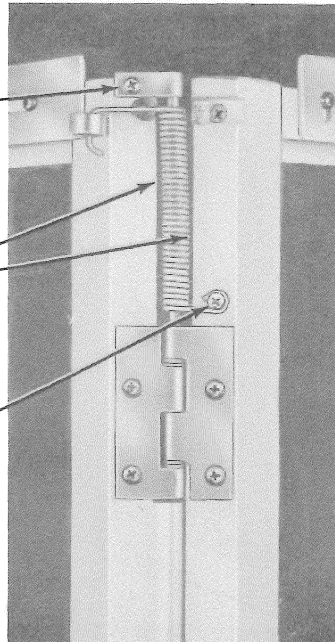
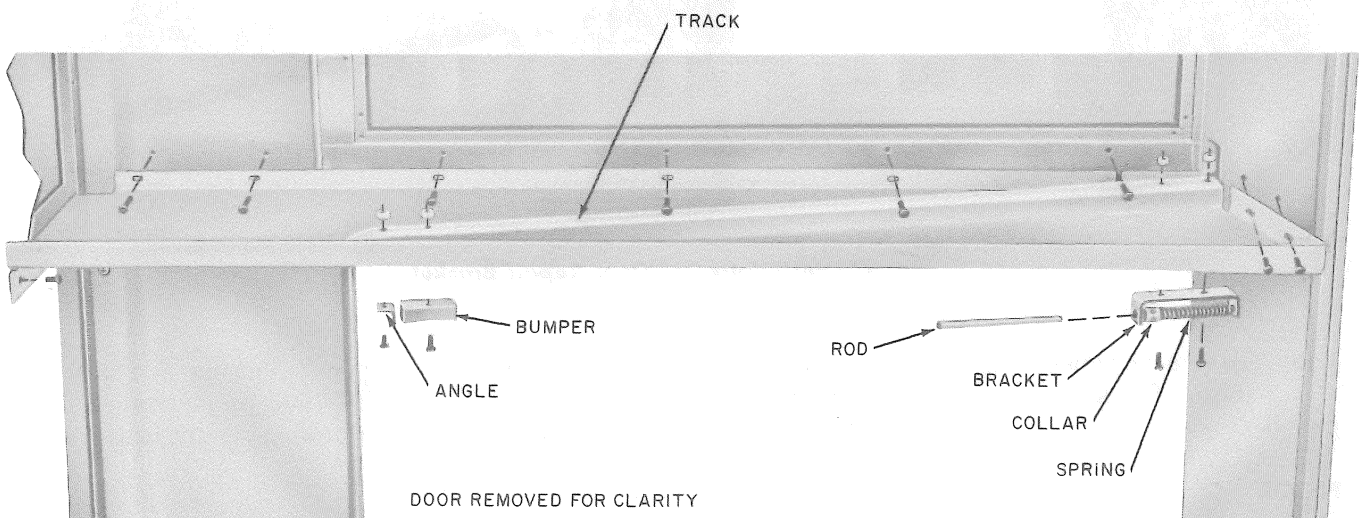

Fig. 25—Installation of Top Hinge Assembly
Fig. 26—Installation of Door Track
- (1) Check if booth is level.
- (2) Check hinge wear. Clearance between hinge barrels should not exceed 1/16 inch; gauge by eye. Replace worn hinges.
- (3) Check spring of top hinge assembly. Replace if defective (Fig. 25). Replace all earlier type assemblies with the new top hinge assembly per Fig. 25.
- (4) Check rubber door-frame bumpers. Replace if worn or missing.
- (5) Check door track. If worn track is interfering with operation of door, replace track as shown in Fig. 26.